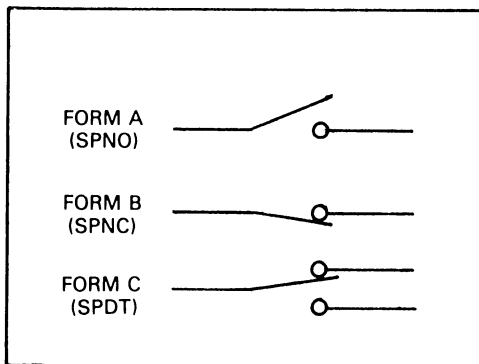

Figure 2-1. Switch Terminology
1. Form A is a single pole normally open (SPNO) switch. Refer to Figure 2-1. A 2-pole switch normally open is classified as a 2 Form A.
2. Form B is similar to Form A except that its contacts are normally closed. Refer to Figure 2-1. A 2-pole switch that is normally closed is classified as a 2 Form B.
3. Form C is shown in Figure 2-1 as a single pole double throw switch. It could also be a multiple switch such as a 2-pole which would be classified as a 2 Form C.